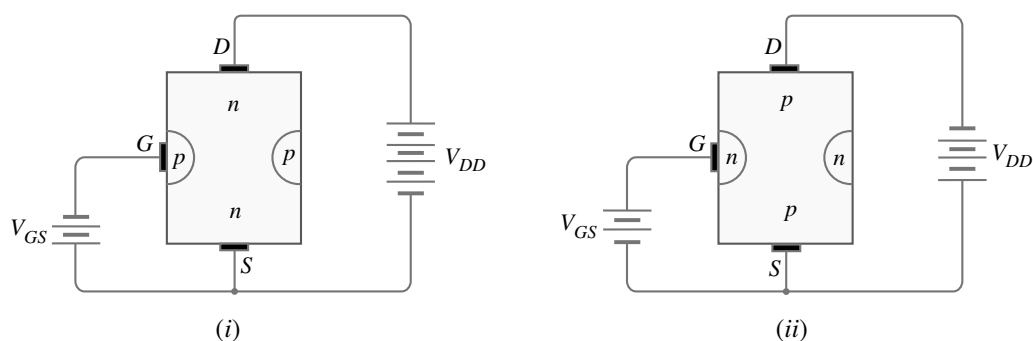

Fig. 17.3
**JFET polarities.** Fig. 17.3 (i) shows an *n*-channel *JFET* polarities whereas Fig. 17.3 (ii) shows the *p*-channel *JFET* polarities. Note that in each case, the voltage between the gate and source is such that the gate is reverse biased. This is the normal way of *JFET* connection. The drain and source terminals are interchangeable i.e., either end can be used as source and the other end as drain.